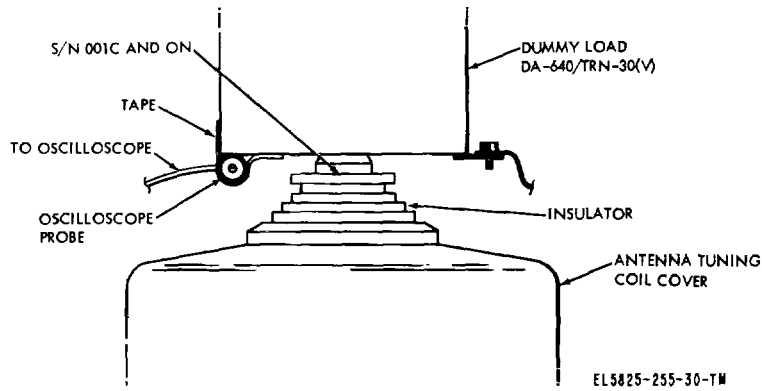

Figure 3-26. Amplifier, Electrical Tests Setup.
(1) Turn oscilloscope on. Tape oscilloscope probe to dummy load as shown in figure 3-26 so that stray radiation drives oscilloscope.
(2) Connect lead between oscilloscope ground and equipment ground strap.
(3) Set transmitter FREQUENCY KHZ switches to 200.0 kHz.
(4) Turn on power supply and adjust output voltage to + 28 0.5 vdc if necessary.
(5) Turn transmitter PWR switch and amplifier POWER switch to ON.